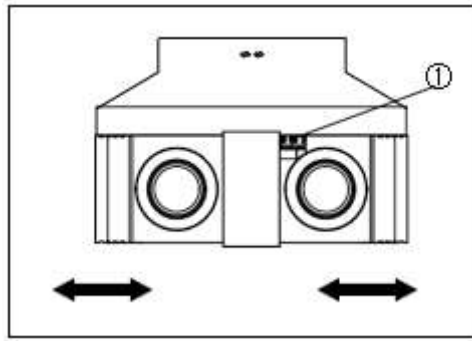

Figure-24
8.2.6 Adjusting the Interpupillary Distance (Figure-24)